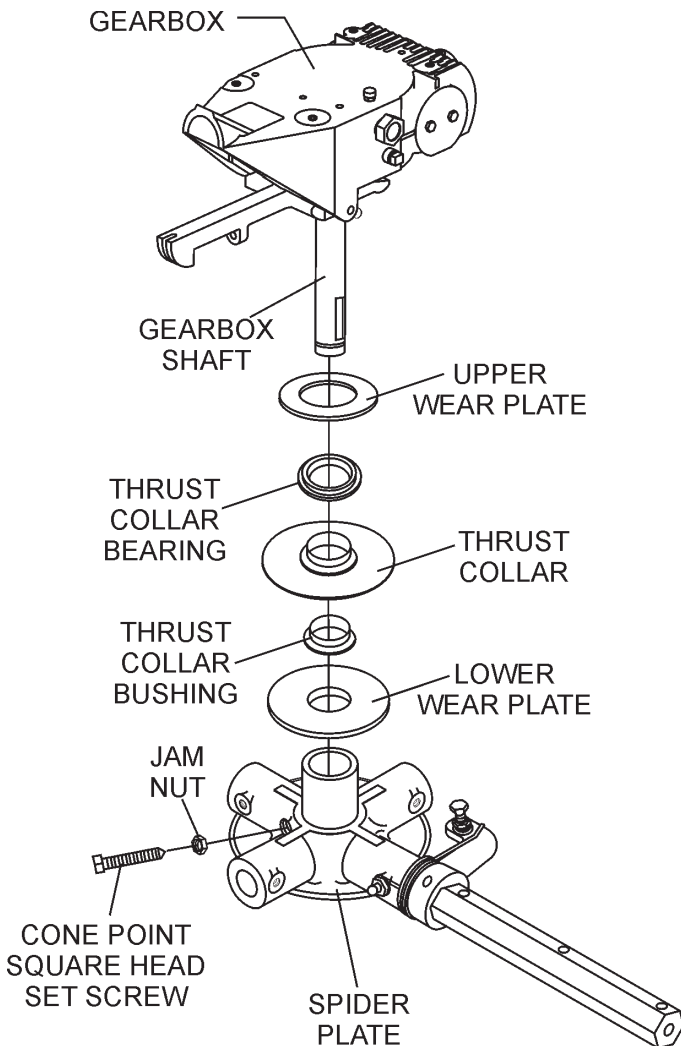

Figure 35. Spider/Gearbox Removal
- a. Locate the cone point square head set screw (Figure 35) and attached jam nut found on the side of the spider assembly.